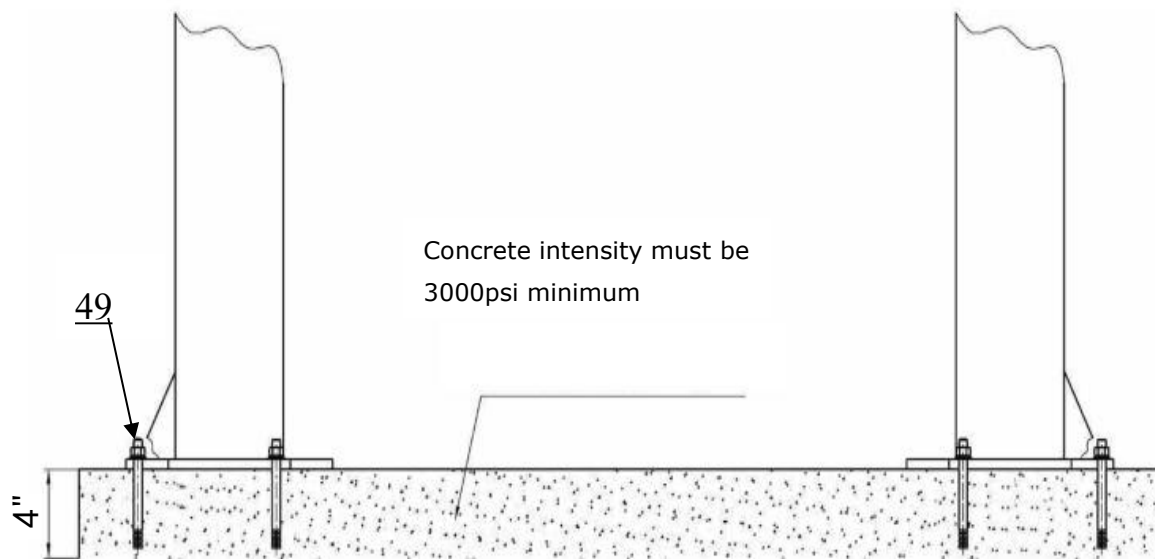

Fig.8
D. SPECIFICATIONS OF CONCRETE (See Fig. 8)